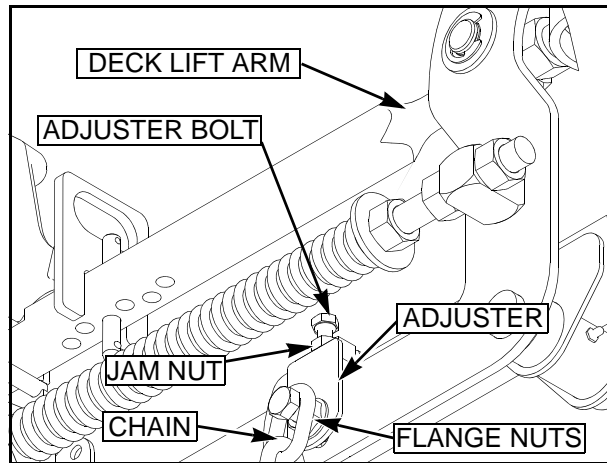

FIG. 5
14. Loosen the 7/16" flange nuts that clamp the adjuster to the deck lift arm (FIG. 5).
adjuster to move up and down freely. (FIG. 5).